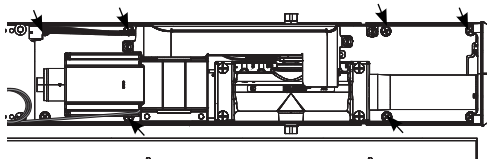

Fig. 10 6 LAP Mounting Screws
1. Remove the six (6) 1/4-20 x 1/2" Phillips head screws securing LAP to backplate. (Fig. 10)
2. Replace the six (6) Phillips head screws and tighten all eight (8) screws. (Fig. 10)